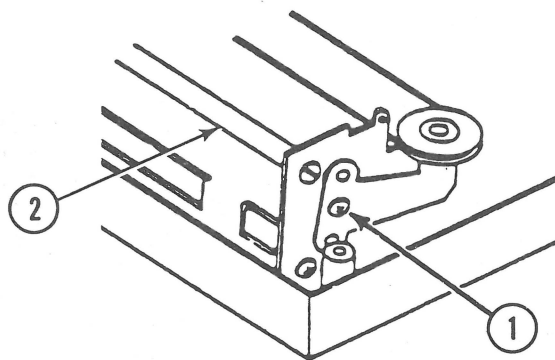

FIGURE 30
13. Tighten the tension screw (Figure 30, #1) until the wire is taut.
14. Replace the front guide (Figure 30, #2).